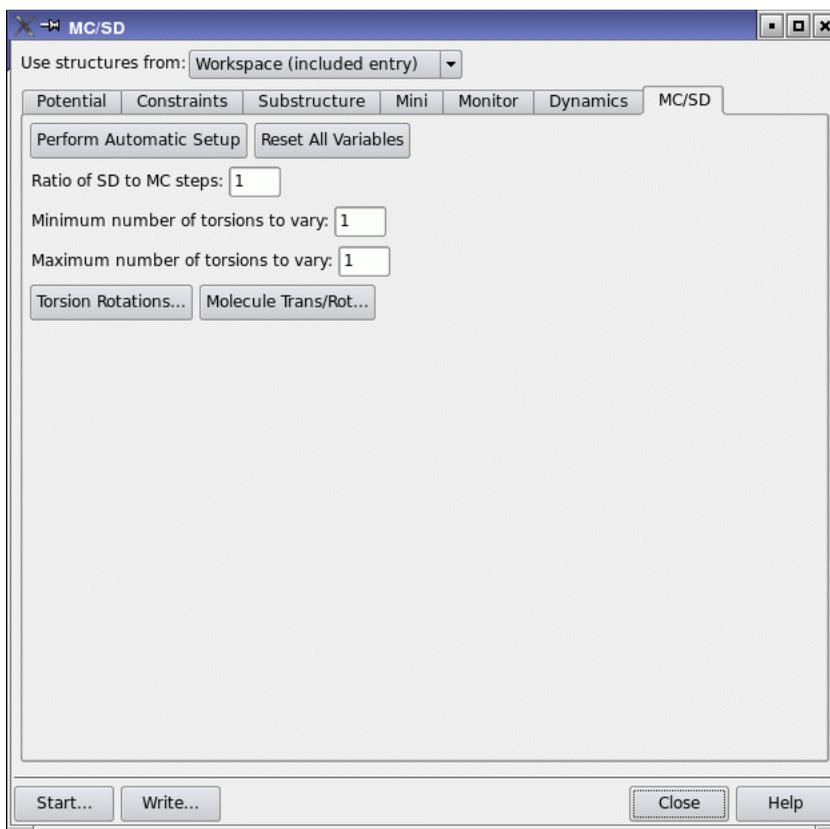

Figure 5.2. The MC/SD panel showing the MC/SD tab.
11. In the MCS/SD tab, click Perform Automatic Setup (see Figure 5.2).